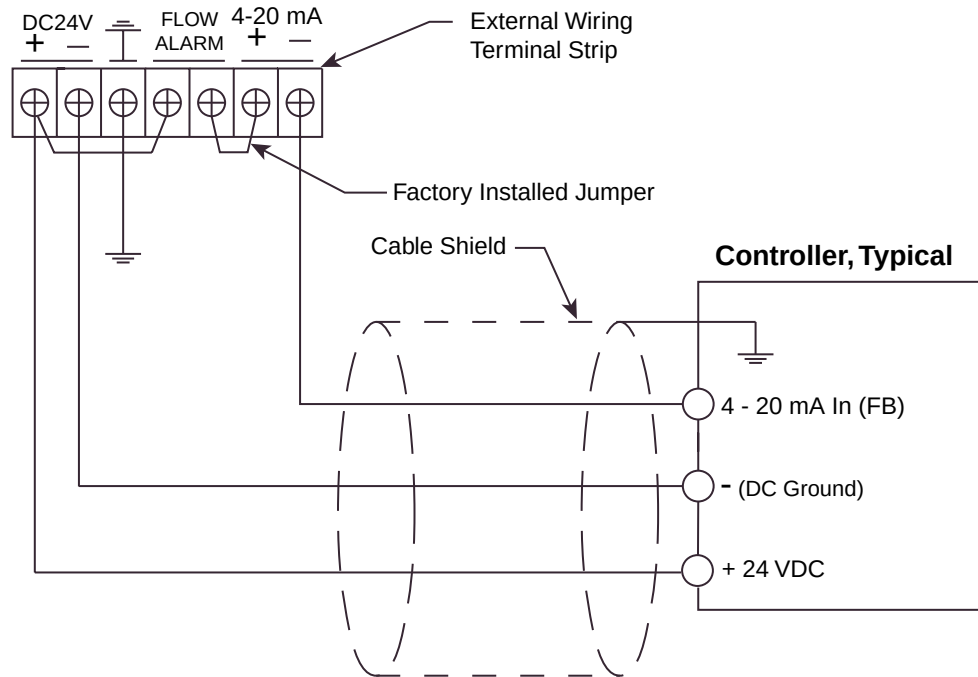
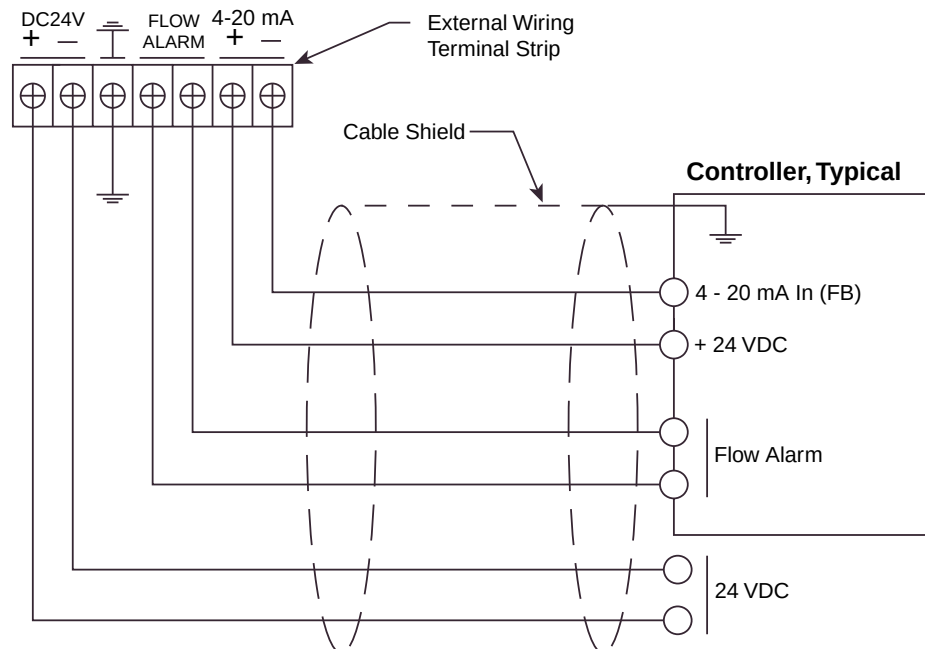

Figure 8: Wiring the GD-K7D2 to a Controller Without Flow Alarm Terminals
Figure 9: Wiring the GD-K7D2 to a Controller With Flow Alarm Terminals
A three conductor cable is used when the GD-K7D2 is wired to a controller that does not have flow alarm circuitry and flow alarm terminals for connection to the GD-K7D2 (see Figure 8 below). In this case, a jumper is factory installed between the second and third terminals from the right and the fourth and seventh terminals from the right. If these jumpers are not installed and the GD-K7D2 is being connected to a controller without flow alarm terminals, install 20 gauge wire to make these jumper connections.
A six conductor cable is used when the controller has flow alarm circuitry and flow alarm terminals for connection to the GD-K7D2 (see Figure 9 below).
4. Connect three or four wires between the GD-K7D2 and the controller as shown in Figure 8 or Figure 9 depending on the controller used.
5. If using a controller with flow alarm terminals, connect the remaining two wires to an appropriate 24 VDC power source as shown in Figure 9.
5. If providing 24 VDC from a source other than the controller (see Figure 9), turn on or plug in the incoming DC power to the GD-K7D2.
If the controller is the type that does not have flow alarm terminals, see Figure 8, then the GD-K7D2 will interrupt the 4 - 20 mA signal to the controller. This will cause the controller to indicate a fail alarm.
If the controller is the type that has flow alarm terminals, see Figure 9, then the GD-K7D2 will cause the controller to go into low flow alarm. See the controller instruction manual for more information.